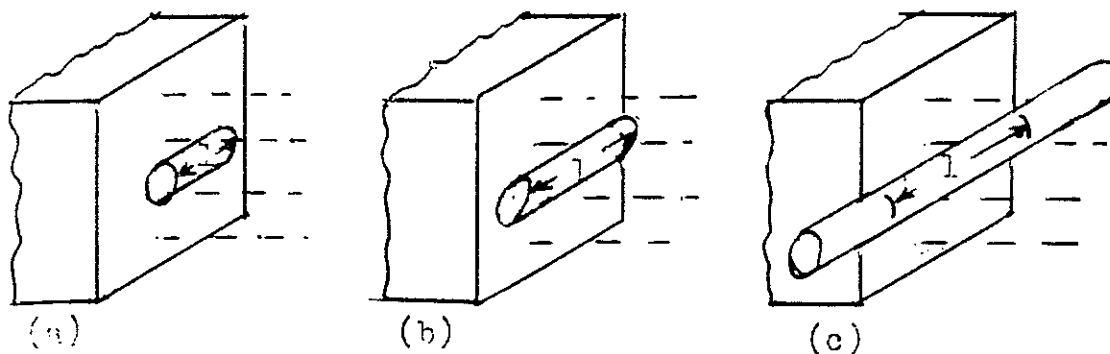

Figure 22.2
- The length of the conductor. By the length of the conductor it is meant that length which is cutting the lines of force of the field, or what is known as the 'effective length'. In figure 22.2(a) the effective length is less than the width of the magnet, while in figure 22.2(b) the effective length is the same as the width of the magnetic field. The conductor in figure 22.2(c) is longer than the width of the magnetic field but the effective length remains the same as that in figure 22.2(b).